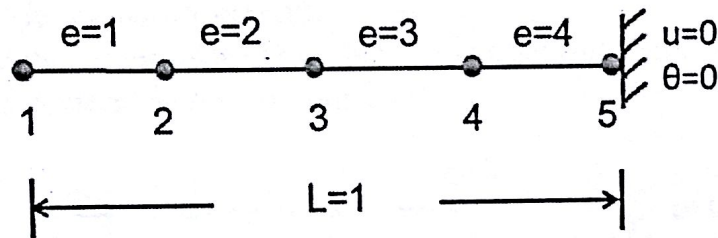

Figure 2. Four element mesh. (2-node linear elements).
- 2) Now consider the 4-element mesh with zero Dirichlet BCs at global node-5 (shown in Fig 2 below). Develop the linear system for this problem. Show all your work.